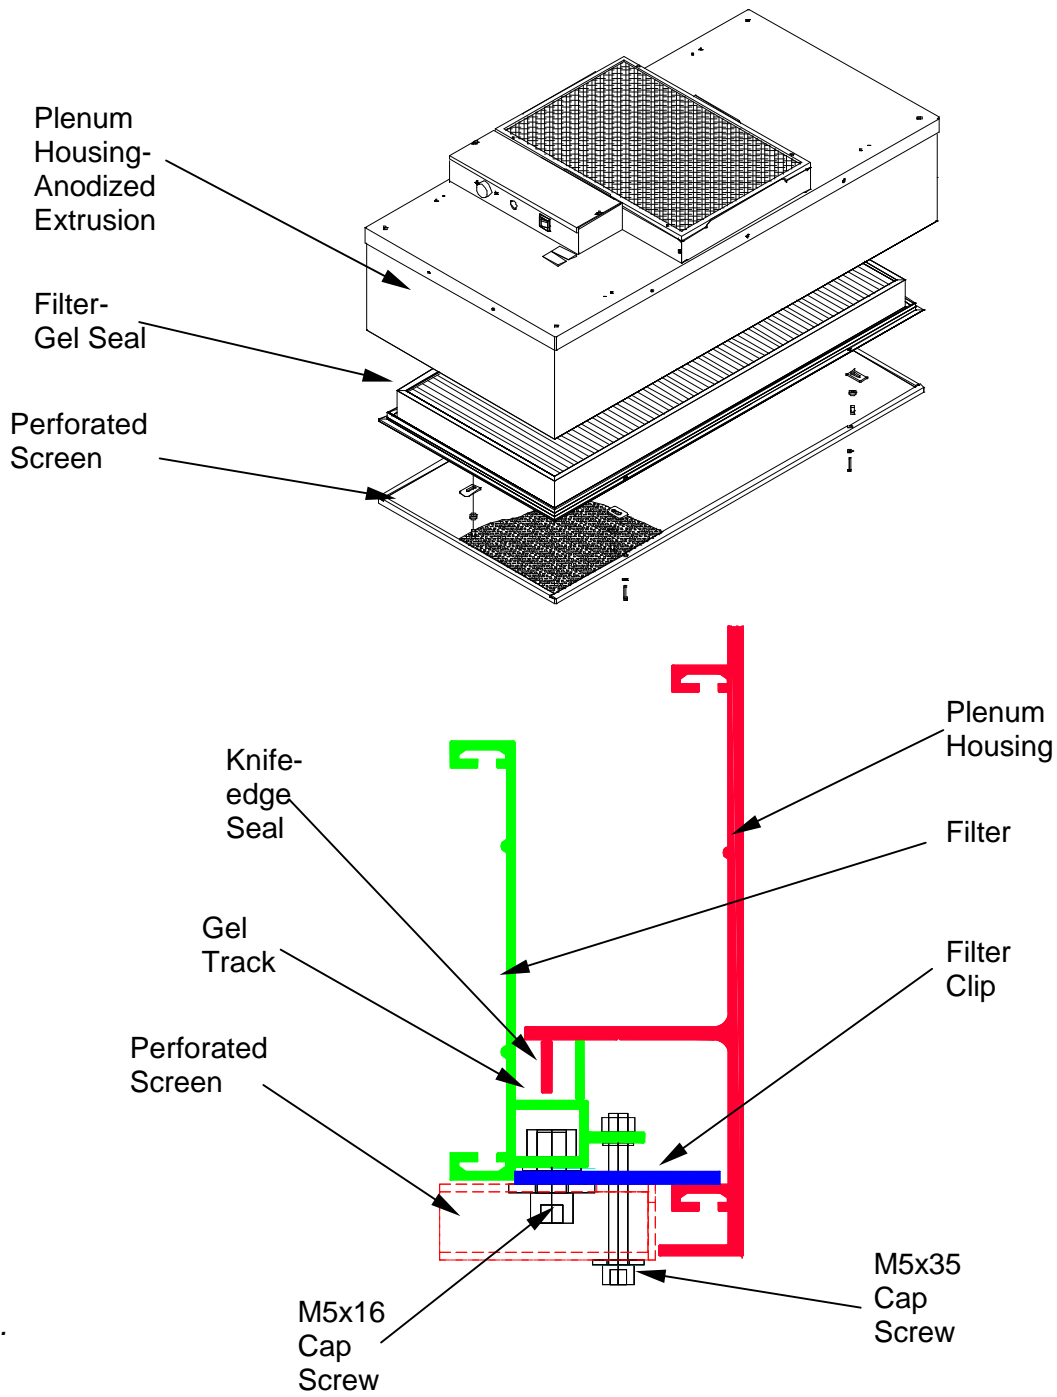

Figure 4 – RSR Extrusion Filter Replacement
- Step 1.** Remove the diffuser screen by removing the four M5x35 socket head screws securing the screen to the filter. (Figure 4)